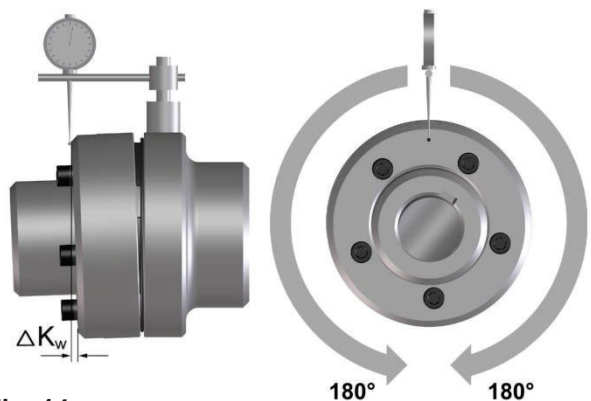

Fig. 14
- ❑ Calibrate one entire rotation (360°). Determine the largest deviation ΔK_{w1} as well as the smallest deviation ΔK_{w2} (Fig. 14). Calculate the angular misalignment $\Delta K_w = \Delta K_{w1} - \Delta K_{w2}$